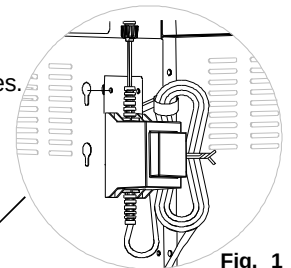

Fig. 1
- ☐ Attach the Transformer to the Left Cart Side Panel/Trim Plate by inserting the two stud bolts on the transformer bracket into the two key holes on the side panel as shown. Press the Transformer downward until it rests in place. (See Fig. 1).
- ☐ Install the 6 Pan Head Screws 3/16"x1/2" half way. Place the Rear Trim Panel onto the 6 half-installed Screws. Press the Rear Trim Panel downwards until it rests in place (see Fig. 1 & Fig. 2). Next, insert the 2 Phillips Head Screws 1/4"x1/2" (see "B") and tighten all Screws securely.